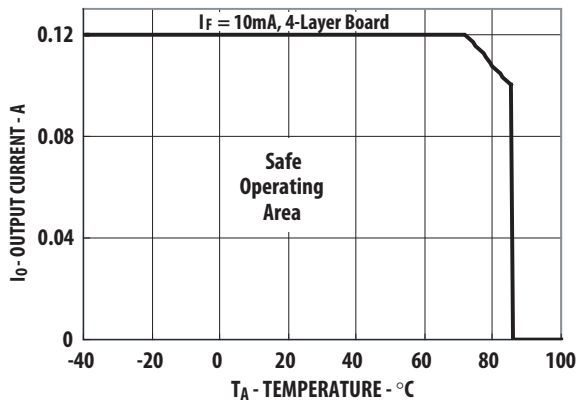

Figure 1. Maximum Output Current Rating vs Ambient Temperature (ASSR-4110-003E)
- For derating, refer to Figure 1, 2, 3 and 4.
Figure 1, 2, 3 and 4 specify the maximum average output current allowable for a given ambient temperature. The maximum allowable output current and power dissipation are related by the expression $R_{ss} = P_o(\max)/(I_o(\max))^2$ from which R_{ss} can be calculated. Staying within the safe area assures that the steady state MOSFET junction temperature remains less than 125°C .